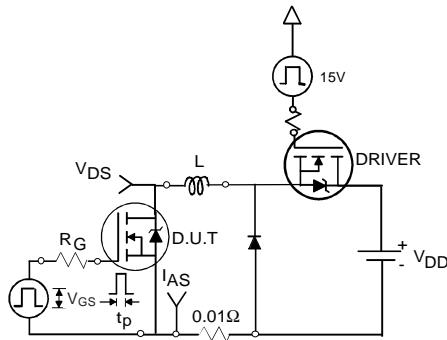

Fig 12a. Unclamped Inductive Test Circuit
- ② Limited by  $T_{\text{Jmax}}$ , starting  $T_J = 25^\circ\text{C}$ ,  $L = 0.11\text{mH}$  ⑤  $R_G = 25\Omega$ ,  $I_{\text{AS}} = 75\text{A}$ ,  $V_{\text{GS}} = 10\text{V}$ . Part not recommended for use above this value.
- ③ Pulse width  $\leq 1.0\text{ms}$ ; duty cycle  $\leq 2\%$ .
- ④  $C_{\text{oss eff.}}$  is a fixed capacitance that gives the same charging time as  $C_{\text{oss}}$  while  $V_{\text{DS}}$  is rising from 0 to 80%  $V_{\text{DSS}}$ .
- ⑤ Limited by  $T_{\text{Jmax}}$ , see Fig.12a, 12b, 15, 16 for typical repetitive avalanche performance.
- ⑥ This value determined from sample failure population. 100% tested to this value in production.
3. Equation below based on circuit and waveforms shown in Figures 12a, 12b.